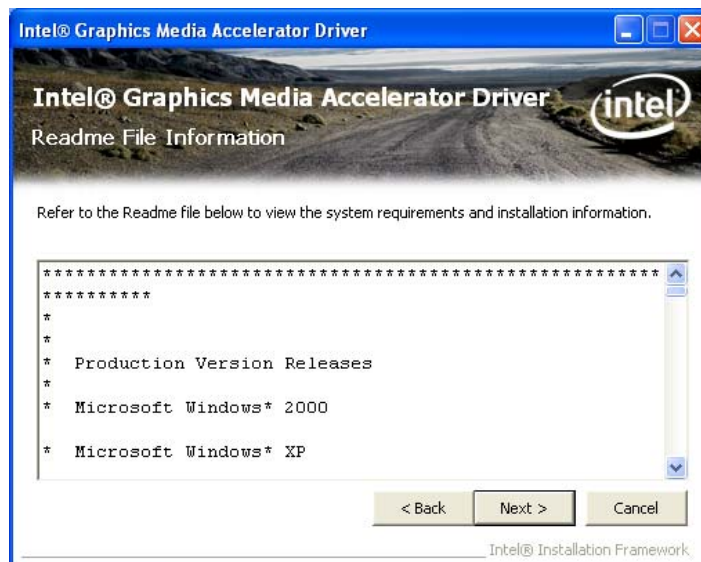

Figure 7-14: VGA Driver Read Me File
Step 11: The Read Me file in **Figure 7-14** appears.